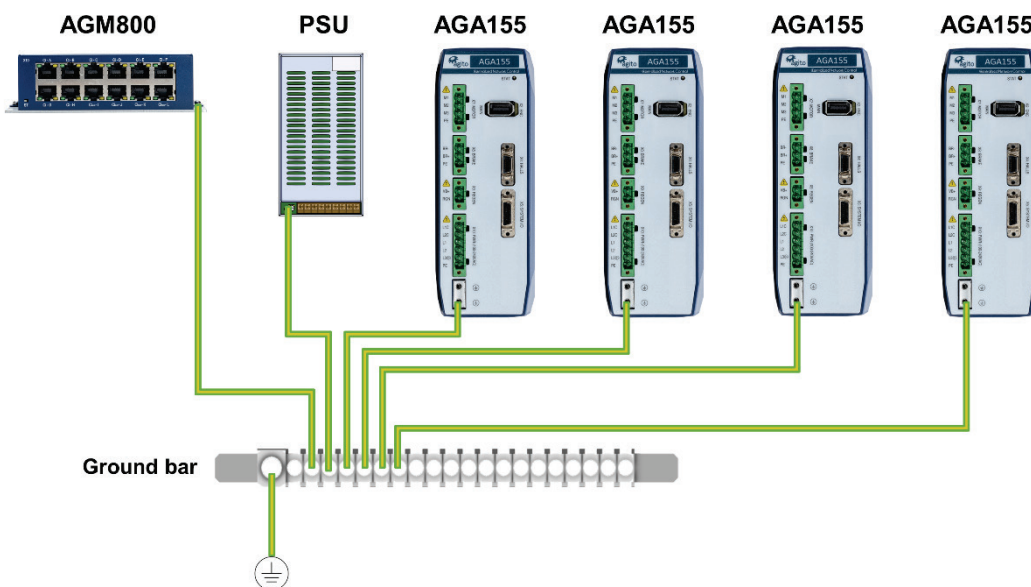

Figure 7. System grounding
- The AGA155 must be connected to protective earth (PE) and connected to the building's ground. PE is protected with an earth-leakage circuit breaker (ELCB); hence it is safe to touch. Refer to Figure 7.